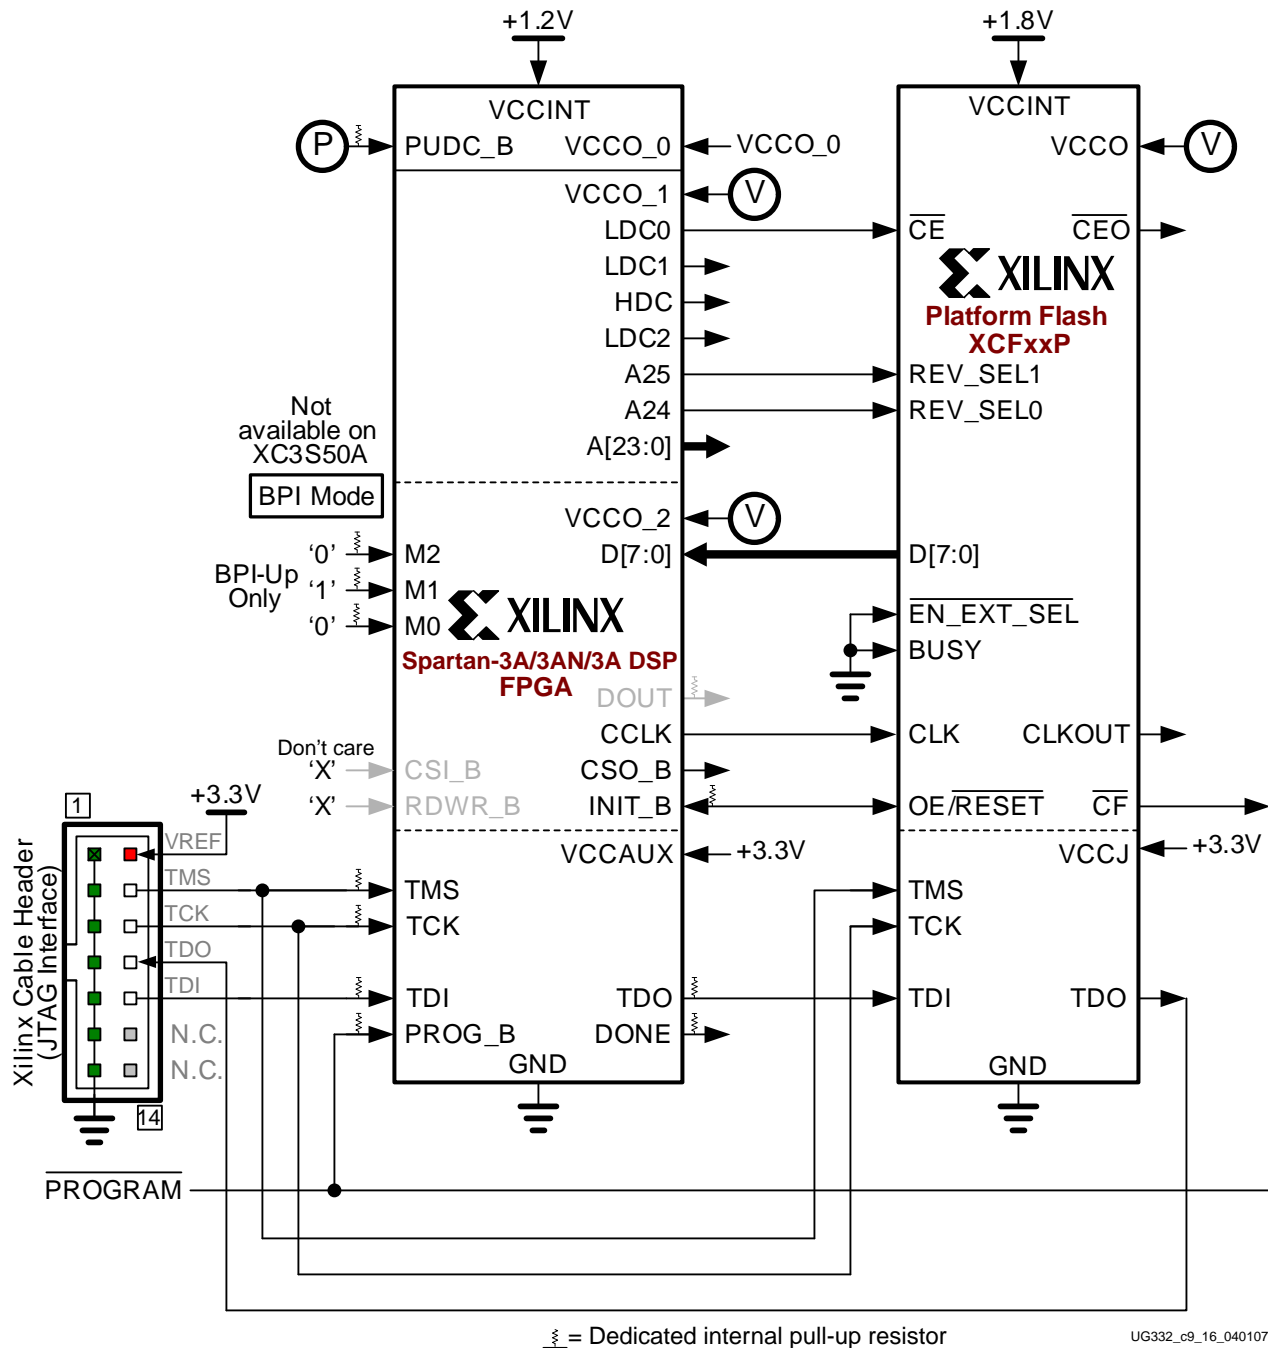

Figure 5-6: Master BPI Mode Using Xilinx Parallel Platform Flash PROMs (XCFxxP)
The Master BPI mode also supports the Xilinx Parallel Platform Flash PROM (XCFxxP) family, as shown in Figure 5-6.
- The diagram in Figure 5-6 shows a Spartan-3A/3AN/3A DSP FPGA, but the same approach also works with Spartan-3E FPGAs.